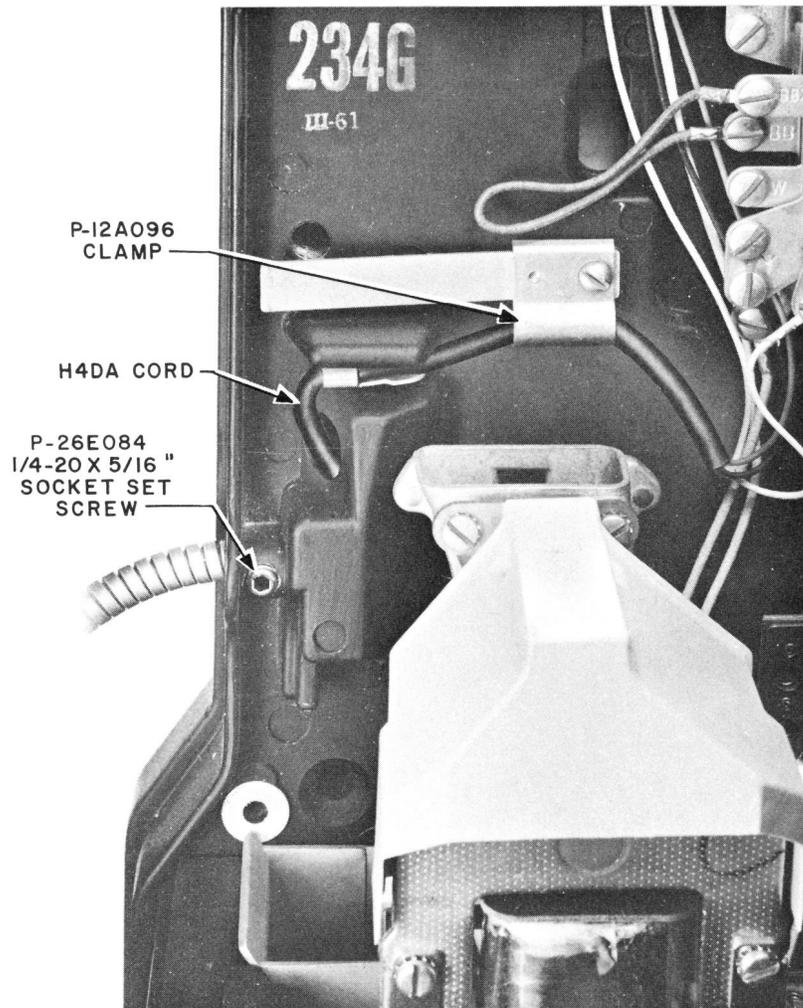

Fig. 3 - Fastening Cord of the G3R Hand Set to the Coin Collector Backplate
9. Remove the pull-in wire from the new cord and fasten the P-12A096 clamp over the cord (Fig. 3).
10. A P-26E084 1/4-20 x 5/16 - inch self-locking set screw is used to secure the cord to the coin collector backplate (Fig. 3). A flat surface is located approximately 1/4-inch from the set end of the stainless steel flexible hose. Using a 1/8-inch Allen wrench, screw the socket set